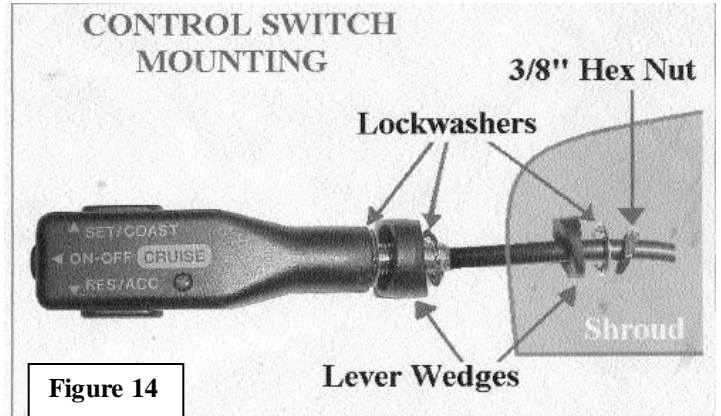

Figure 14
1. Use the **lever wedges** on the **Control Switch** at an angle template to drill a 3/8" or 9.5mm hole in the lower shroud of the steering column cover. Position lock-washers as shown. **Figure 14**